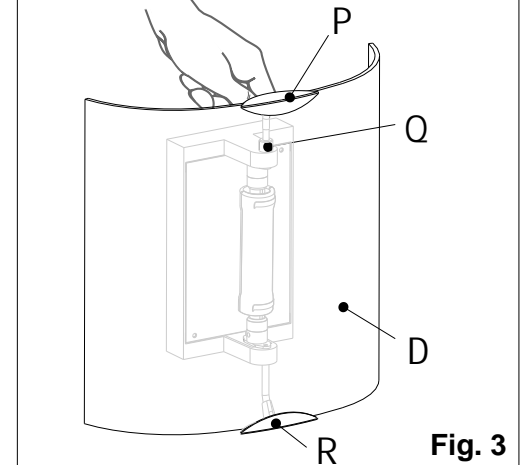

Fig. 3
- .10. **Fig.3.** Install glass and finger tighten thumb screw “Q” to adjust arm “P” and secure glass.